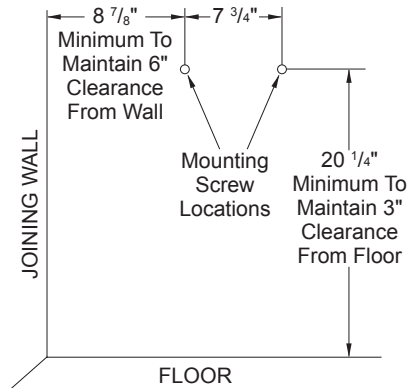

Figure 3 - Mounting Screw Locations
- ⚠ WARNING:** Maintain minimum clearances shown in Figure 3. If you can, provide greater clearances from floor and joining wall.
2. Mark two mounting screw locations on wall (see Figure 3).